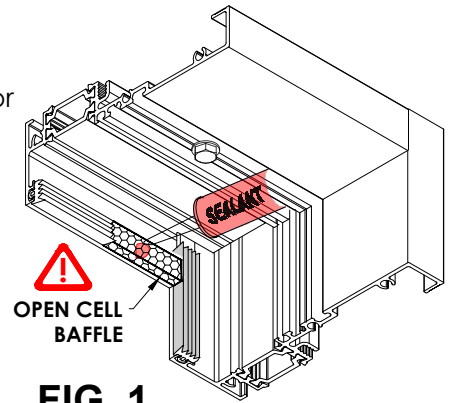

FIG. 1
- a. **CRITICAL:** Install two OPEN CELL BAFFLES from both sides at the head of each opening. Use dab of sealant to hold it in place. **See FIG 1.**
- b. Install glazing gasket #1342103, ensure gasket is not wavy. Ensure exterior gasket is not wavy. **See FIG 1.**
- c. Apply a dab of sealant to the glazing gasket joint. **See FIG 1.**